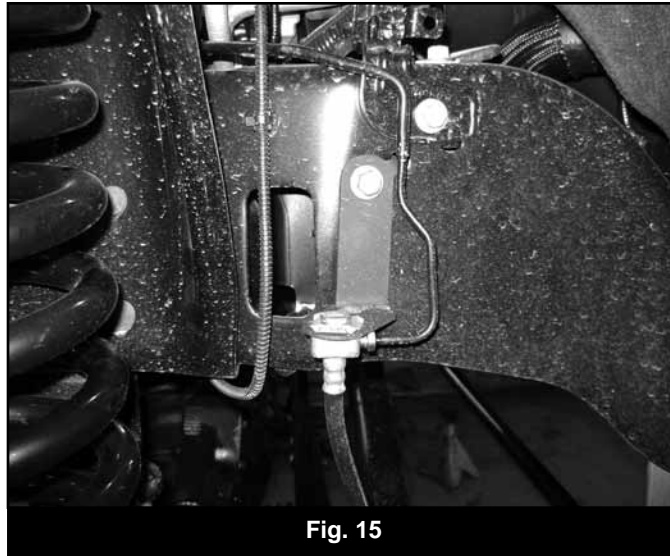

Fig. 15
41. 6" Lift Only: Remove the factory brake line brackets from the frame. Install the new provided brake line brackets and secure with the factory hardware. Carefully reform the brake hard line and install the junction block through the bottom of the new bracket. (Fig 15) Fasten with the original brake line clip.